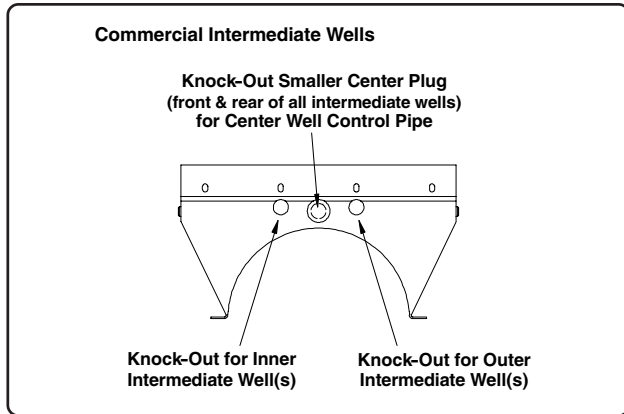

Fig. 17
1. Knock out the smaller hole on the front and rear side of any intermediate well located between the bin wall and center well (See Fig. 17).
3. Place the predrilled end of the control pipe between the angle mount tabs welded to the bottom of the center well control gate. Secure the control pipe using one (1) 5/16" x 1 3/4" bolt and nylon locknut.